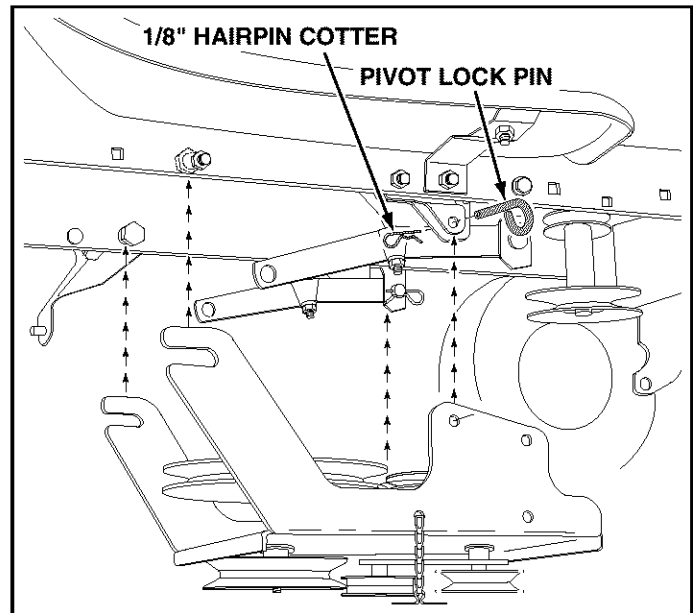

FIGURE 13 RIGHT SIDE VIEW
- Attach the clutch/idler assembly to the tractor frame by sliding the notched rear arms of the assembly onto the two shoulder bolts you placed on the inside of the tractor frame. Lift the front of the assembly so that the sides fit inside the R.H. and L.H. hanger brackets. Attach the assembly to the brackets using two pivot lock pins and 1/8" hairpin cotters. See figure 13.